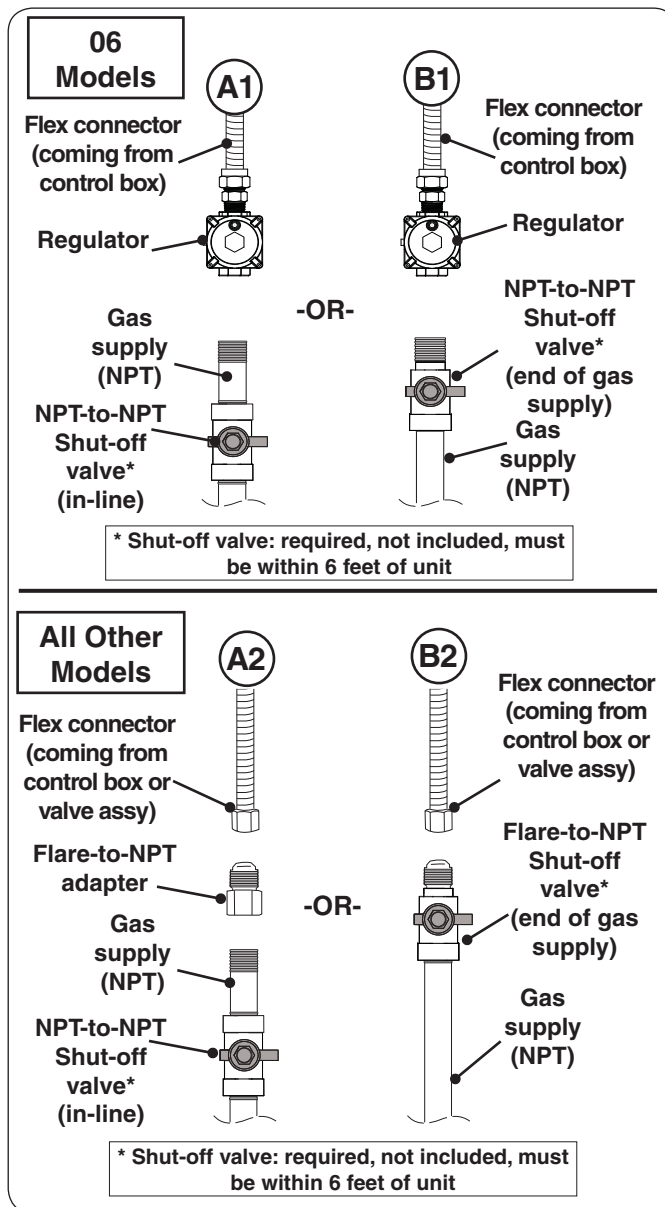

Fig. 24-1 Connecting to a gas line
- Connect the regulator (on end of flex connector) to the gas supply (NPT) OR shut-off valve (NPT) using a pipe joint compound resistant to all gasses (see Fig. 24-1, A1 or B1). Tighten securely.
- Install the supplied flare-to-NPT adapter to the gas supply (NPT) using a pipe joint compound resistant to all gasses (see Fig. 24-1, A2). Tighten securely.
- Connect the flex connector to the adapter (see Fig. 24-1, A2). Tighten securely.
- Connect the flex connector to the shut-off valve (flare)(see Fig. 24-1, B2). Tighten securely.